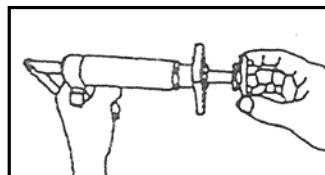

FIG 1
Put a suitable magnet adapter(1) on the tool and then out the tool on the brake-hat. See FIG 1 (The pressure spindle is used for connecting the magnet adapter with the pressure tube. The proper way to administer the anticline brake is choosing a suitable magnet adapter by inserting it into the pressure spindle which is installed on the brake-hat.)